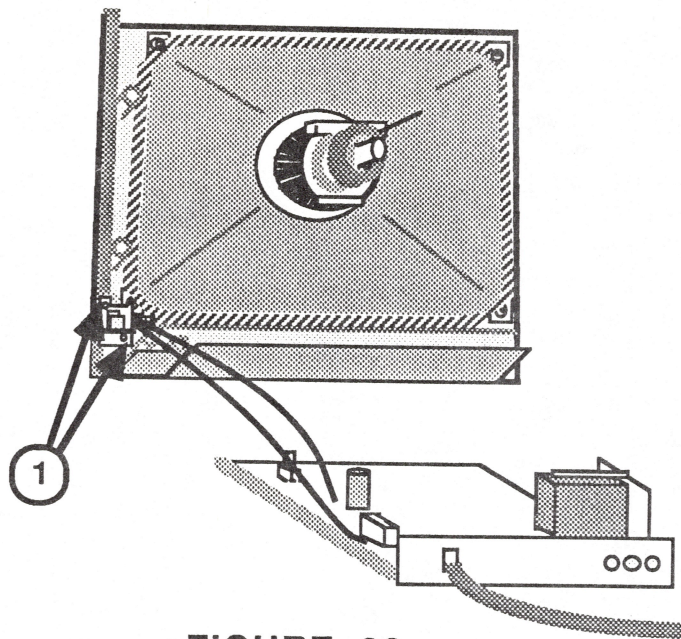

FIGURE 22
- c. Replace the two screws which secure the on/off switch to the front bezel (Figure 22, #1).